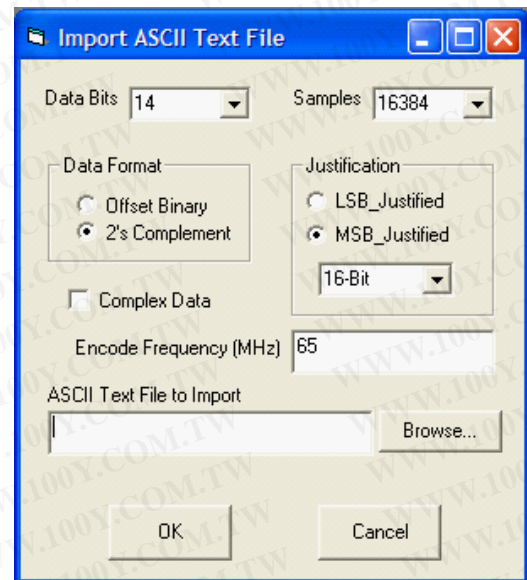

Figure 10. Import ASCII Text File Dialog Box
3. The window in Figure 10 opens. This window is used to give ADC Analyzer information about how to interpret the text data file. If any of these input parameters are not correct, both the time and FFT data will not be correct.